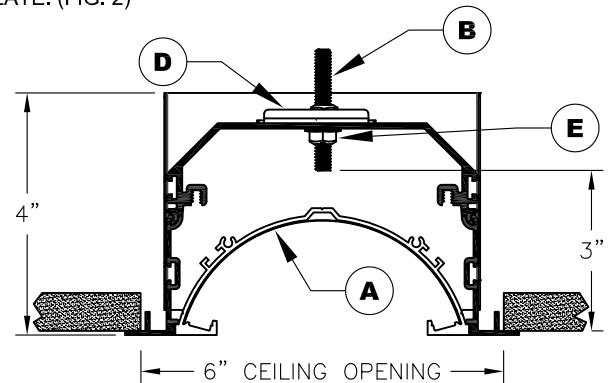
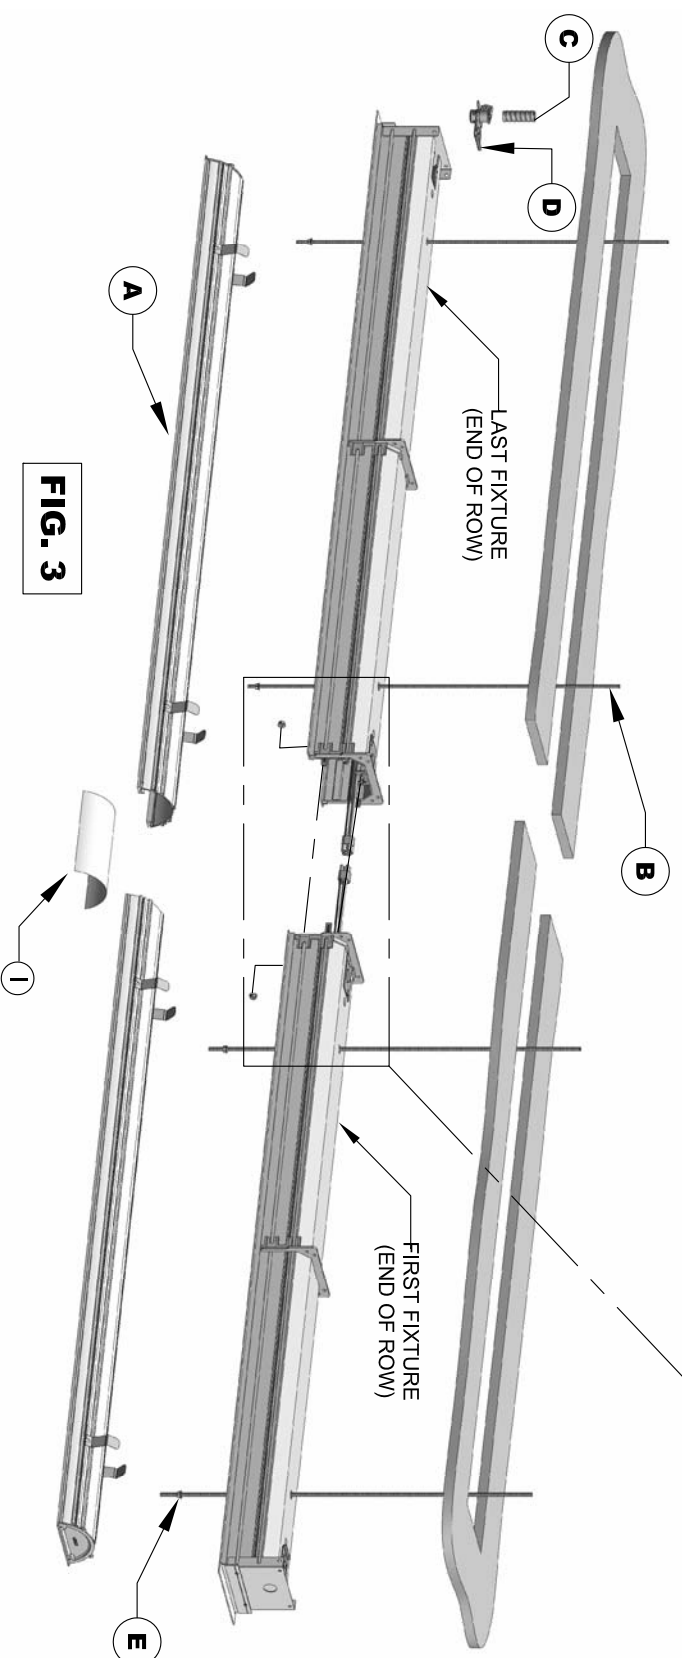
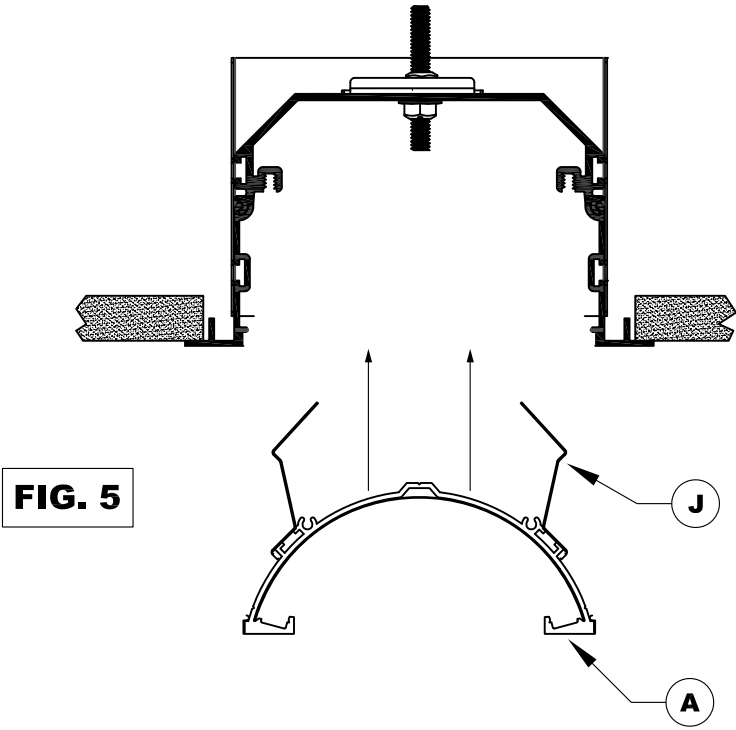

FIG. 1
FIG. 3
FIG. 5
CEILING CONTRACTOR MUST PROVIDE A 6" WIDTH ROUGH CEILING OPENING. (REF. FIG. 1). LENGTH OF OPENING SHOULD BE AS INDICATED ON FACTORY SHOP DRAWING. IF YOU ARE NOT IN POSSESSION OF A SHOP DRAWING, CONTACT YOUR LOCAL REPRESENTATIVE OR THE FACTORY TO OBTAIN ONE.
SECURE THREADED ROD (B) (BY OTHERS) TO STRUCTURAL SUPPORT ABOVE, IN MIDDLE OF ROUGH OPENING AND ON THE CENTERS INDICATED ON FACTORY SHOP DRAWING. THE LOWER END OF THE THREADED ROD SHOULD TERMINATE APPROXIMATELY 3" ABOVE FINISHED CEILING LINE. (FIG.1)
CEILING CONTRACTOR MUST PROVIDE A 6" CEILING OPENING WIDTH AS INDICATED IN FIG. 1 BY LENGTH AS INDICATED ON FACTORY SHOP DRAWING. (REF. FIG.3). IF YOU ARE NOT IN POSSESSION OF A SHOP DRAWING, CONTACT YOUR LOCAL REPRESENTATIVE OR THE FACTORY TO OBTAIN ONE.
SECURE THREADED ROD (B)(BY OTHERS) TO STRUCTURAL SUPPORT ABOVE IN MIDDLE OF ROUGH OPENING AND ON THE CENTERS INDICATED ON FACTORY SHOP DRAWING. LOWER END OF THREADED ROD SHOULD TERMINATE APPROXIMATELY 3" ABOVE FINISHED CEILING LINE. (REF. FIG. 3)
PRIOR TO INSTALLING LEFT HAND END OF ROW FIXTURE, REMOVE ACCESS PLATE (D) AT DESIGNATED FEED LOCATION AND PULL FIXTURE LEADS OUT THROUGH OPENING. REMOVE KNOCK-OUT FROM ACCESS PLATE AND INSTALL FLEXIBLE CONDUIT (C) TO ACCESS PLATE. ATTACH GROUND WIRE TO INSIDE OF ACCESS PLATE AND MAKE OTHER WIRE CONNECTIONS MAINTAINING COLOR CODING OF WIRES. PUSH EXCESS WIRE INTO FIXTURE AND SECURE ACCESS PLATE TO HOUSING ENSURING THAT WIRES ARE NOT PINCHED BETWEEN FIXTURE AND ACCESS PLATE. (REF. FIG. 3) INSTALL FIXTURE AS DESCRIBED IN STEP 4.
INSTALL REFLECTOR ASSEMBLIES (REF. FIG. 5 PAGE 4). INSTALL JOINT FILM AT FIXTURE INTERSECTIONS (FIG. 3 & 6) ENERGIZE CIRCUIT AND CHECK FOR PROPER OPERATION OF RUN.
REFLECTOR ASSEMBLY (A) IS RETAINED IN HOUSING WITH SPRING CLIPS (J). REFLECTOR MAY BE REMOVED TO GAIN DRIVER ACCESS BY GENTLY PULLING THE REFLECTOR DOWN ON ONE END AND THEN DOWN ON THE OTHER END. TETHER WIRES WILL RETAIN REFLECTOR APPROXIMATELY 6" BELOW HOUSING. WHEN REINSTALLING REFLECTOR, TAKE CARE THAT ALL WIRES ARE NOT BEING PINCHED AND APPLY EVEN PRESSURE TO ALL FOUR CORNERS UNTIL IT IS FULLY SEATED WITHIN HOUSING (FIG 5)